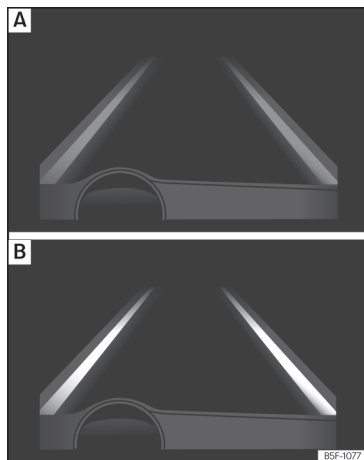

Fig. 267 On the instrument panel display: Indication on the Lane Assist system display (example 1).
- The system is active, but not available, either because the minimum speed has not been reached or because the lane lines are not recognised » **Fig. 267 A**.
- The system is active and available, both lane lines are recognised. The steering angle is not being corrected at this moment » **Fig. 267 B**.